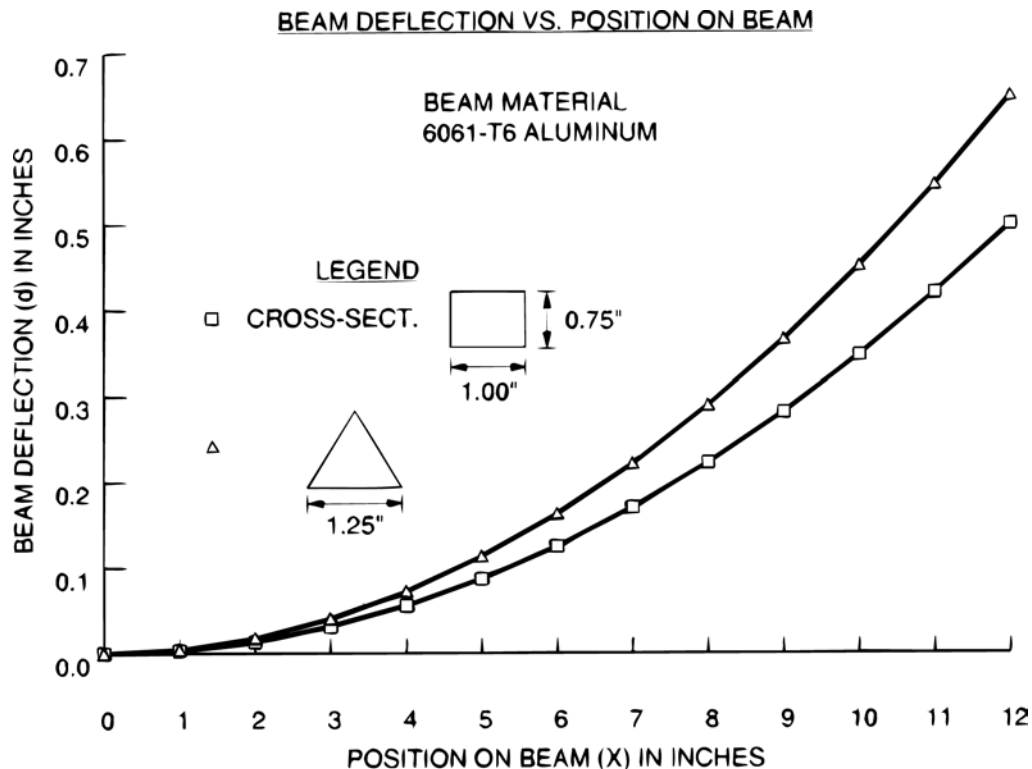

FIGURE i.1
- IV) *Graphs:* Figure i.1 is an example of how your graphs should appear in lab reports. The following is a checklist of the items your graph should include.